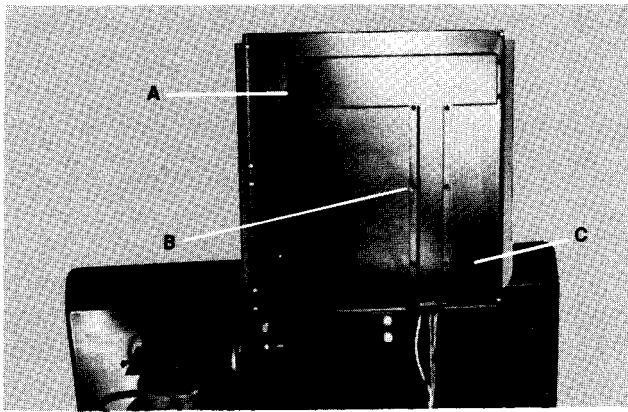

Fig. 11
- 4) Remove back cover from receptable and switches by removing (4) # 6 Phillips Screws. Item A, Fig. 11. Remove wire raceway by removing (6) Phillips Screws. item B, Fig. 11.
- 5) Remove (3) # 6 Phillips Screws from corners of wood panel. Item C, Fig. 11.
- 26) Replace wire raceway. Align wires so none are pinched and install (6) # 6 Phillips screws. Item B, Fig. 11.
- 27) Replace back cover on switches and receptacle. Check wire routing so that no wires interfere with switch mounting and terminals. Install (4) # 6 Phillips screws, Item A, Fig. 11.